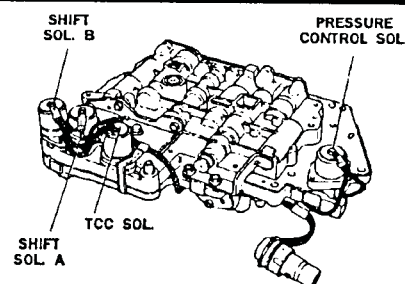

Figure 7
**Shift Solenoid A** and **Shift Solenoid B** are mounted on the valve body. They are normally closed solenoids and hold pressure when they are off. They open to exhaust when they are energized with battery voltage. For solenoid location on the valve body see figure 7.